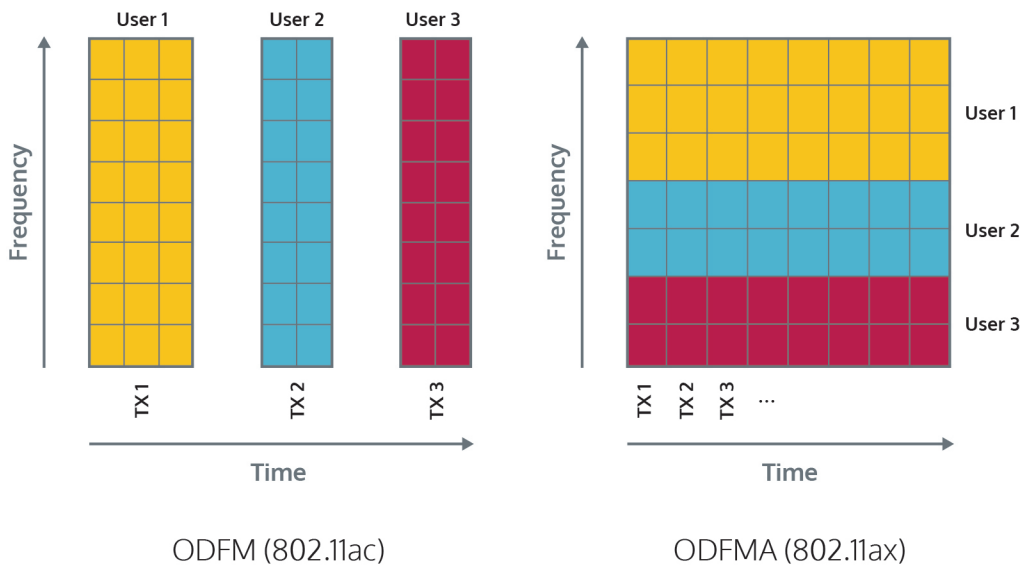

Figure 1. With OFDM, a user occupies an entire channel, but not in OFDMA.
**Figure 1** compares OFDM to OFDMA spectrum usage. In OFDM, the users occupy all the subcarriers (RF spectrum) all the time for a given data request, whereas in OFDMA the users occupy only a subset of subcarriers for a prescribed amount of time. OFDMA requires that all users transmit at the same time, so each user is required to buffer its packets to a defined number of bits so that all users stay aligned in time regardless of the amount of data to transmit. Additionally, an OFDMA access point (AP) can dynamically change the amount of spectrum a user occupies based on how much bandwidth that user needs. For example, a streaming video user would need more subcarriers (spectrum) as opposed to an e-mail transmission that doesn't need real time performance.
OFDM systems allocate an entire portion of spectrum (all subcarriers) for an amount of time for one user (left side of Fig.1). Subsequent users then get all the subcarriers for the next amount of time based on CSMA/CA. OFDMA systems share the spectrum with multiple users at the same time (right side of Fig. 1).